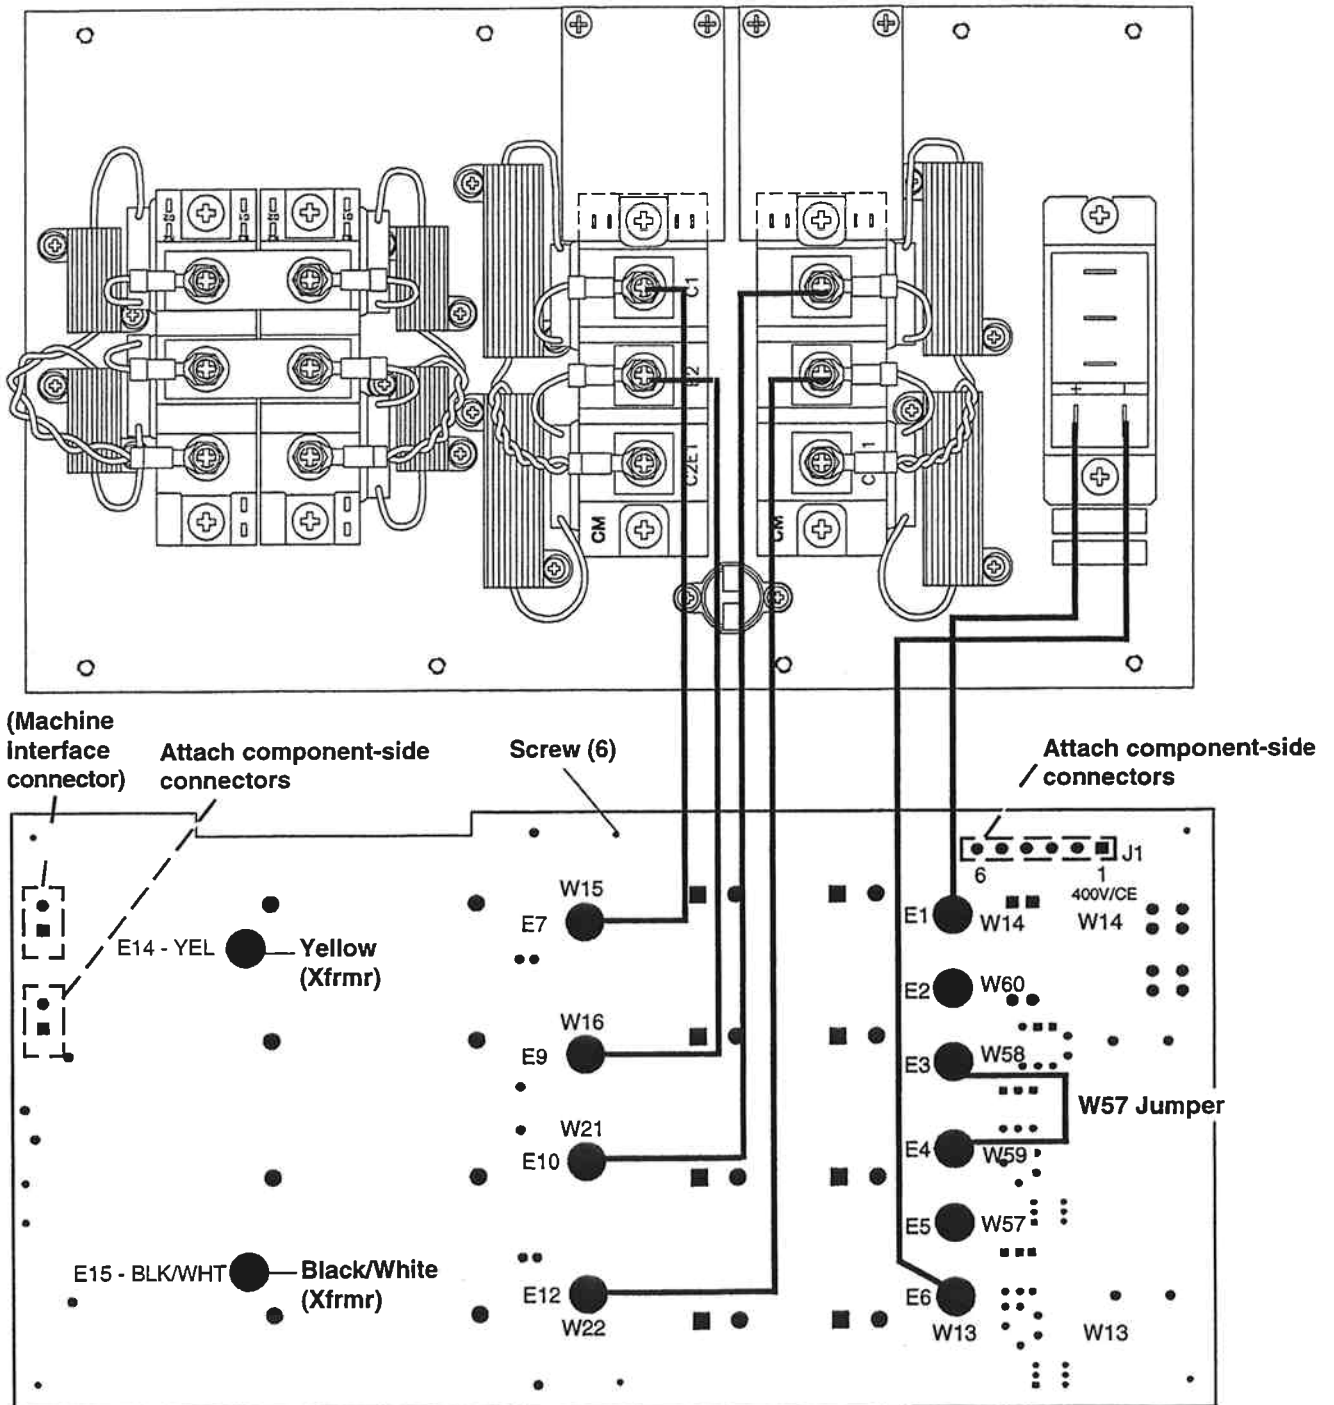

Figure 5 Power Board Connections to 400V CE Power Supplies
3. Attach the yellow and the black/white transformer (xfmr) wires to the power board as shown in Fig. 5.
Note: Figure 5 shows connections from the heatsink assembly, and references connections to the transformer.